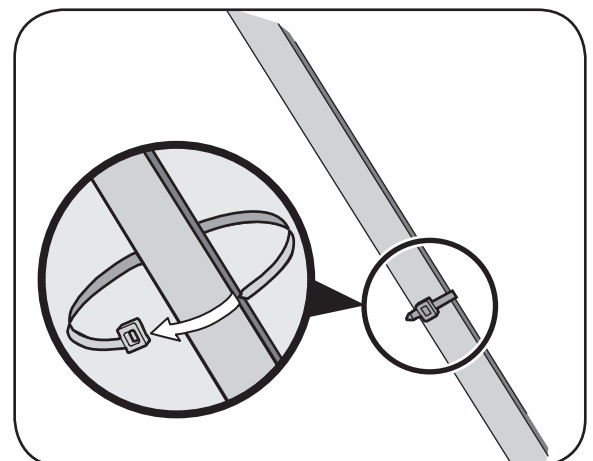

Figure 3-4: Use cable tie to secure cables to lower handle.
5. To secure cables to lower handle, wrap cables around lower handle using the cable tie. Pull cable tie tight and trim excess, Figure 3-4.